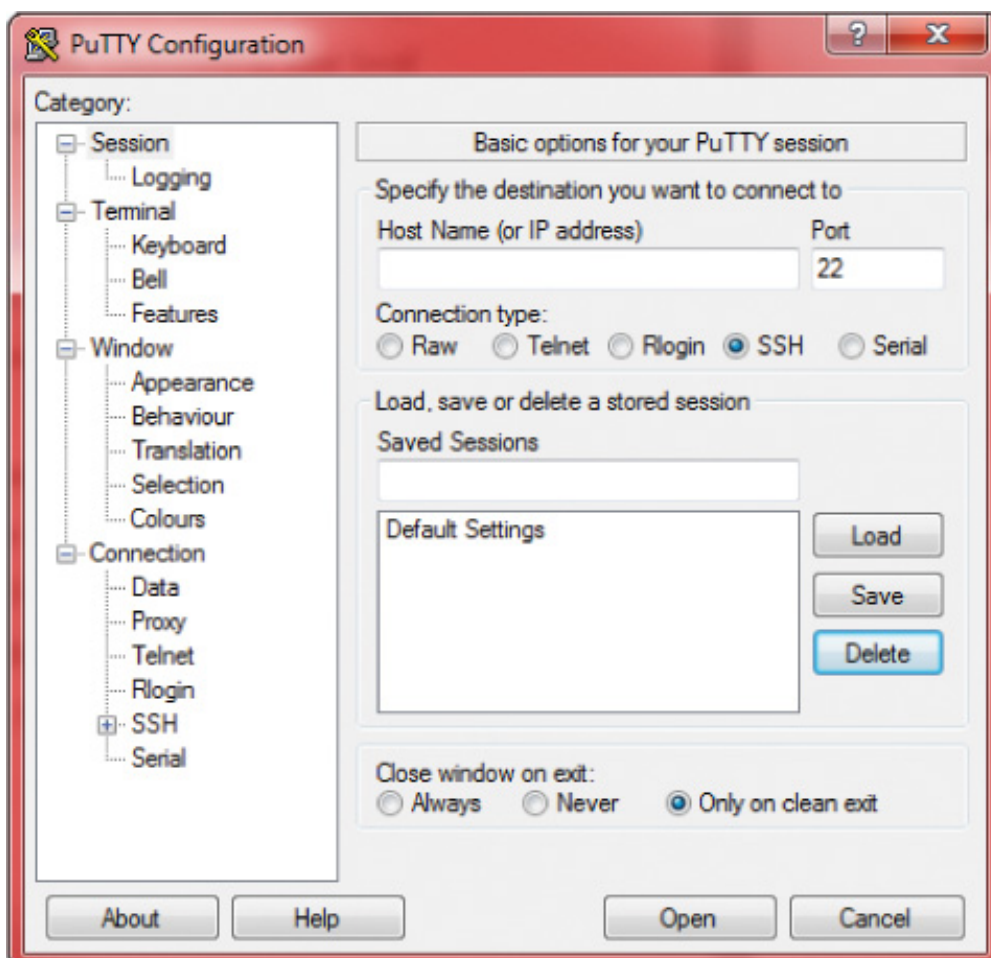

FIGURE 1-19 The PuTTY application and configuration dialog box
3. Once the installer has completed, open the PuTTY application. You'll find a shortcut to PuTTY in the Start menu. Every time you open the application, you'll be presented with a box like the one in Figure 1-19.